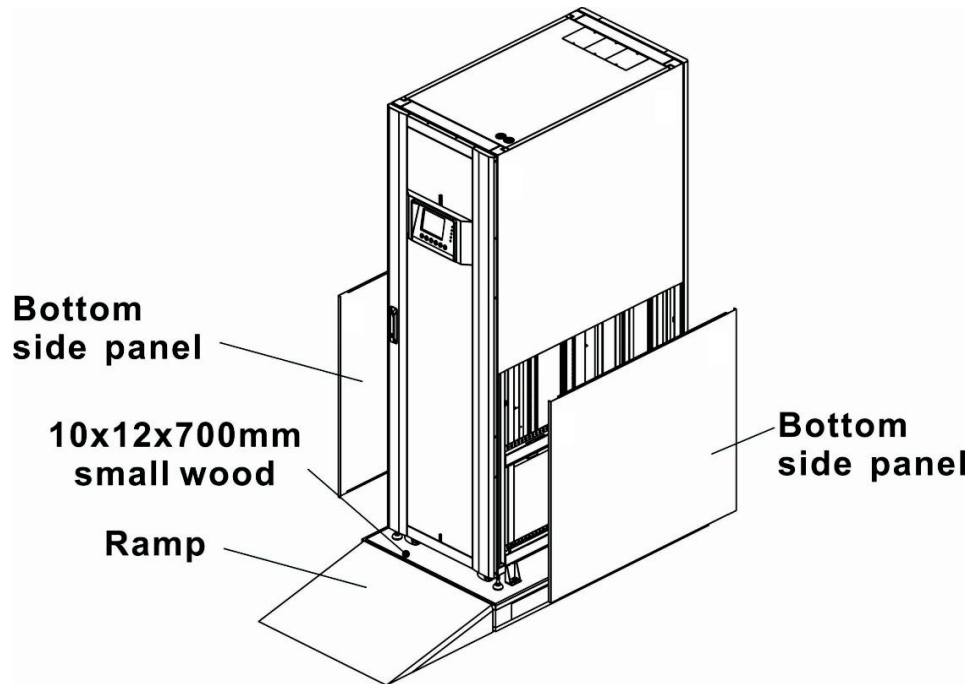

Figure 2-3
3. Put a ramp in the front of the cabinet and insert small wood into groove. Then, remove two side panels. Refer to Figure 2-3.